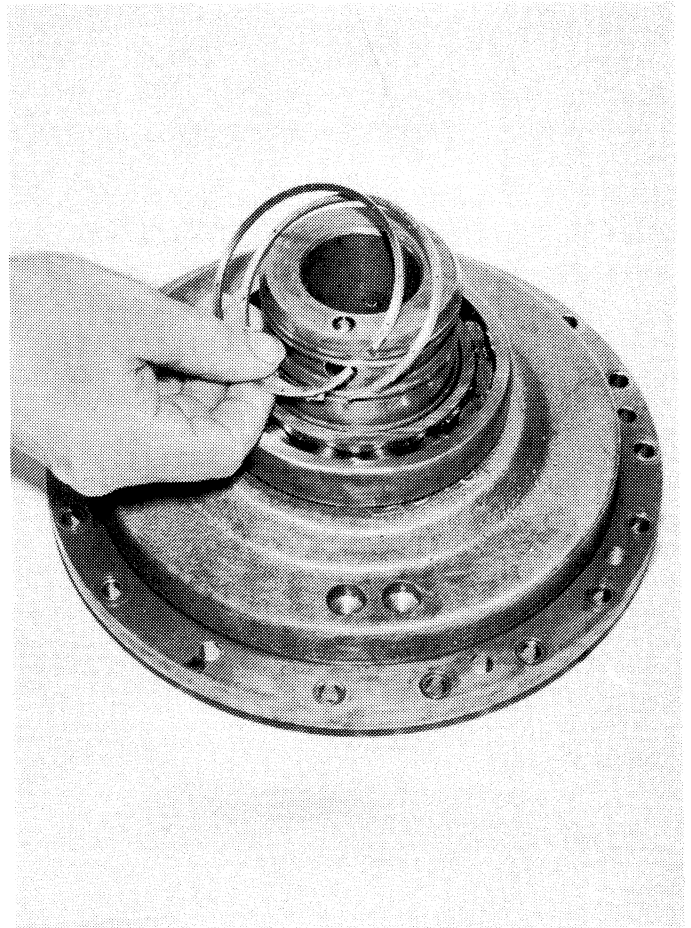

Figure 6-16. Piston Rings Removed from Rear of Clutch Cylinder.
13. Remove the two piston rings from the clutch cylinders. See Figure 6-16.